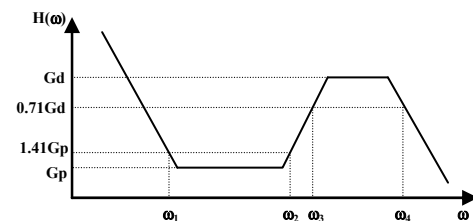

Figure 11. Transfer Function of the Compensation Network
The transfer function of the compensation network, defined as  $H(\omega) = VTEC(\omega) / TEMPOUT(\omega)$ , is shown in Figure 11.
- d.  $C_D * R_I$  determines the corner frequency,  $\omega_2 = 1/(C_D * R_I)$ , where the differential component starts picking up (see Figure 11), as the frequency goes up.